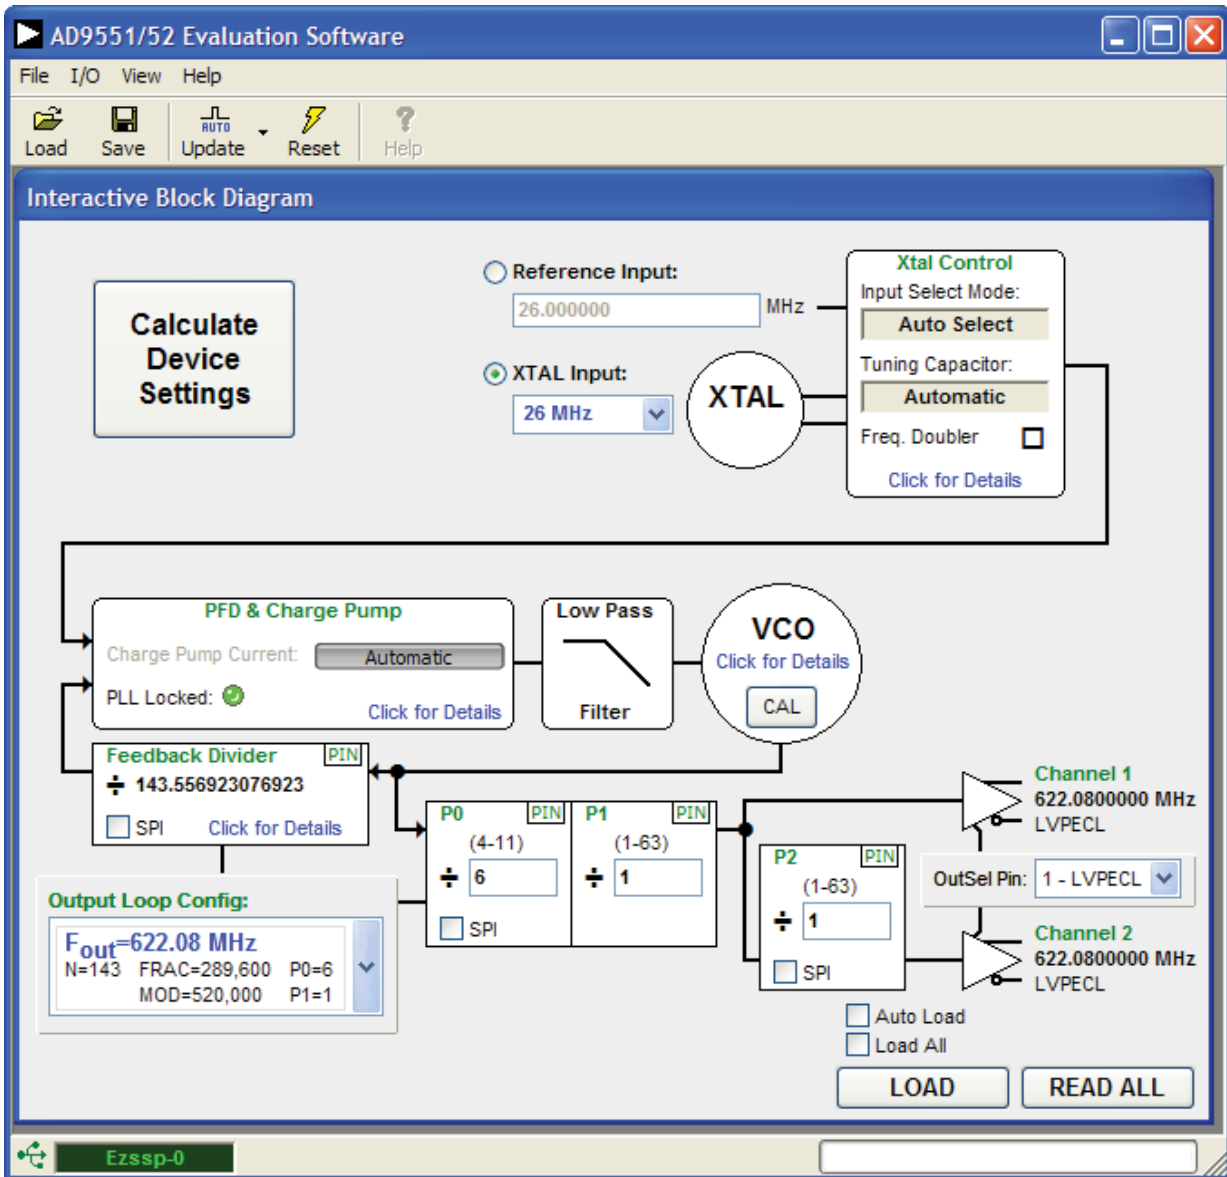

Figure 3. AD9552 Evaluation Software Main Window
4. Select 26 MHz for the input frequency in the **XTAL Input:** box in the main window of the evaluation software (see Figure 3 and the Reference Input Boxes section for more information).
5. Select 622.08 MHz for the output frequency in the **Output Loop Config:** box in the main window of the evaluation software (see Figure 3).
The main window of the AD9552 evaluation board software is comprised of subsections that correspond to the major functional blocks of the AD9552 (see Figure 3). These subsections, most of which have their own window, are outlined in this section. From the main window, the window for each functional block can be accessed by clicking the appropriate box in the main window.